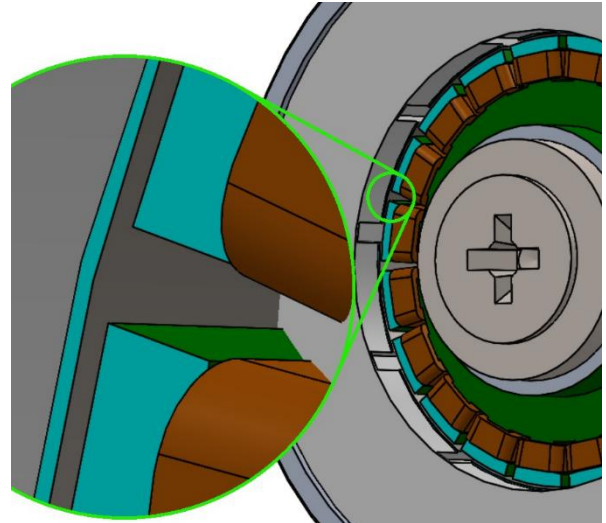

Figure 12: Resolver rotor alignment
4. If case of liquid or combined cooled motor, insert the coolant fittings into the stator (please refer to Chapter 3.6.). Mount the resolver bracket (7) on the back of the motor. Make sure that it is seated in its position, if necessary, use temporary bolts to tighten it to the motor.
5. Mount the first resolver stator (9) to the mounting flange of the resolver bracket (7). While holding the resolver stator (9) down, use DIN 914 set screws (8) to bolt it down from the side. Using threadlocker glue supplied with the kit on the threads is recommended.
6. Make sure all the highlighted surfaces (blue) in Figure 12 are aligned in one plane.